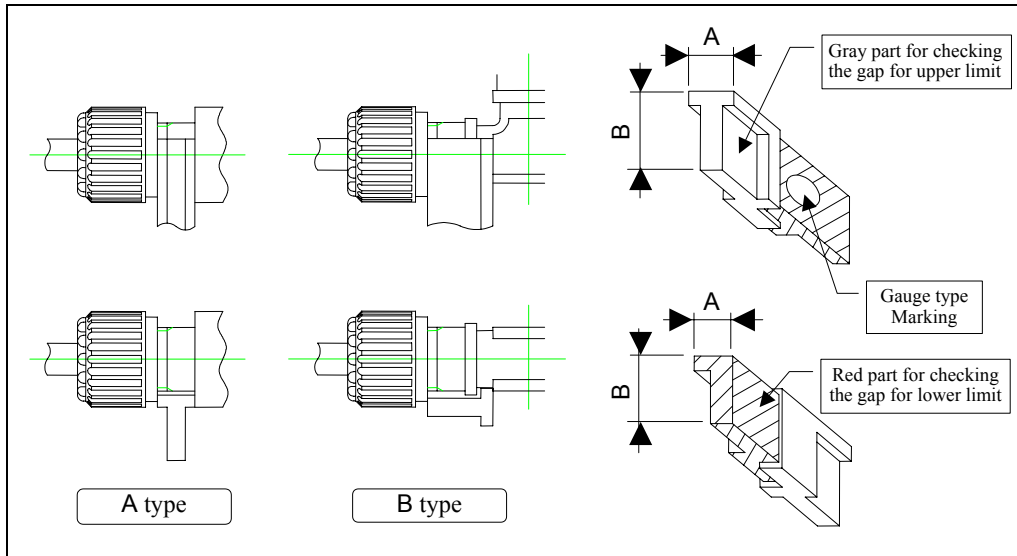

Fig. 21 - How to use gap gauge (3, 4, W1)
- To check the tightness of the union nut, use gap gauges shown in Table 9. Using the gray part of gap gauges permits you to check the gap for upper limit. The red part of gap gauges is for checking the gap for lower limit. Determine whether or not a gap gauge can be inserted in the gap, as shown in Fig. 21.
(1) Checking the gap for upper limit: